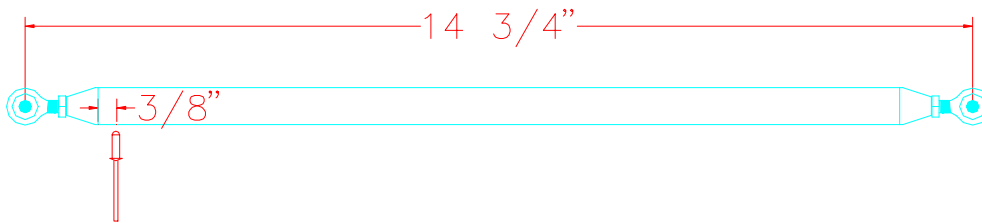

Figure 15.15.2.
- 3) Drill four #30 holes in each end of the pushrods. Keep each hole  $90^\circ$  to each other. Deburr the holes and rivet with  $\frac{1}{8}$ " x  $\frac{1}{4}$ " SS rivets (RR-5404). Adjust the length of the pushrod to  $14 \frac{3}{4}$ ". Figure 15.15.2.